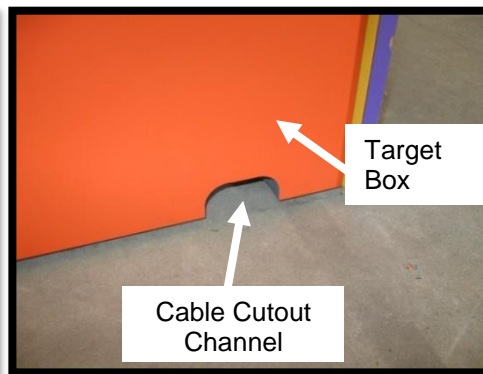

Fig. 3
4. Run Power Cable and Air Line Hose from the Gun Counter to the Target Box by inserting them through the Cable Cutout Channel as shown in Fig. 3.